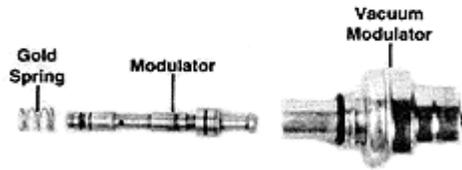

Figure 8
STEP 6 Vacuum Modulator: No modification is necessary for this application. Part throttle shift points can be lowered 5-6 mph by installing the gold spring in back of the modulator valve. Remove modulator and valve. (See Figure 8) Insert spring on end of valve and install valve and modulator as removed. Reconnect vacuum line. Adjustable modulator should be used with this valve body kit. You can purchase this from TCI® or any GM dealer.